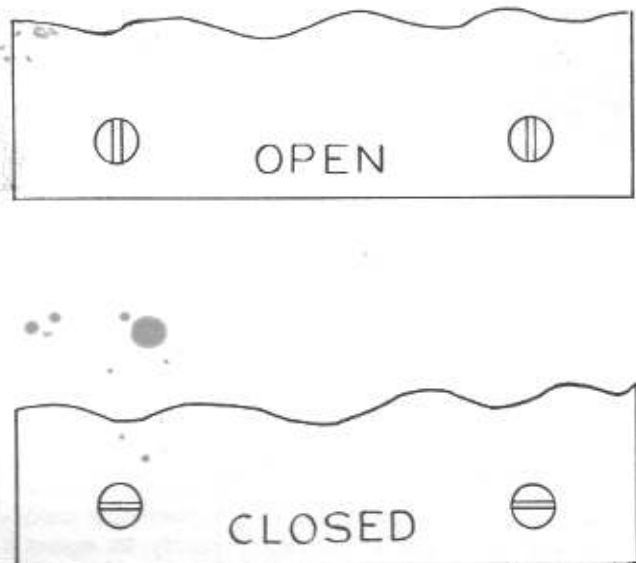

Figure 5
A. Open the Access Door by rotating latches 90° (see Fig. 5). Carefully lift out the chamber.
3. Open the access door on top of the colorhead by turning the latches 90° (see Fig. 5).